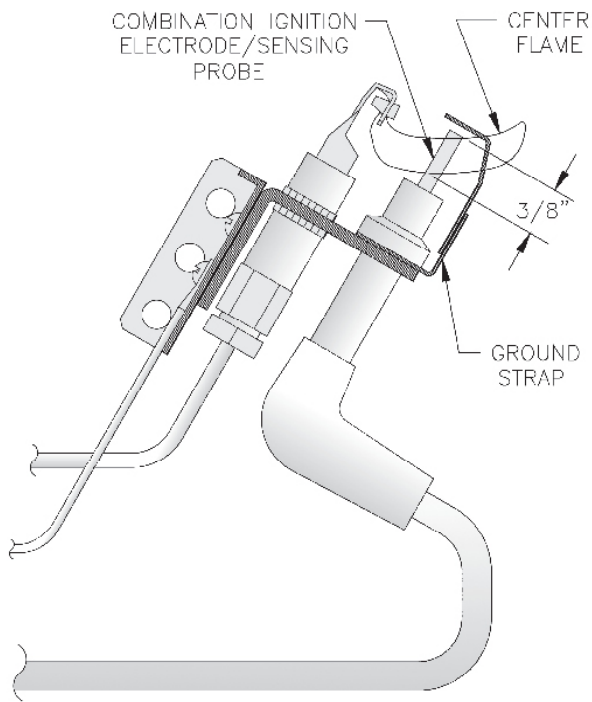

Figure 5: Honeywell Q3481B Pilot Flame
4. Check pilot burner flame through observation port. See Figure 5 for pilot burner illustration. The center flame should be steady, medium hard blue enveloping 3/8 to 1/2 inch of thermocouple. If flames are yellow and lazy, follow instructions TO TURN OFF GAS TO APPLIANCE (see Figure 3) and contact qualified service agency.